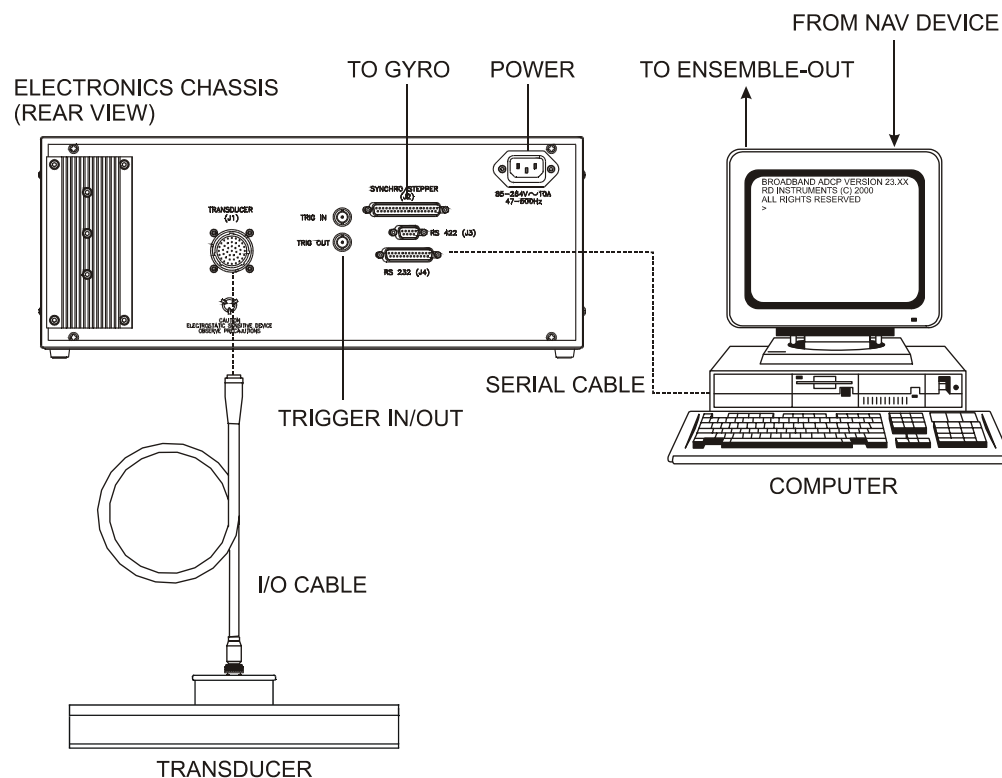

Figure 1. Ocean Surveyor/Observer Connections
- Interconnect and apply power to the system as shown in Figure 1, page 3.